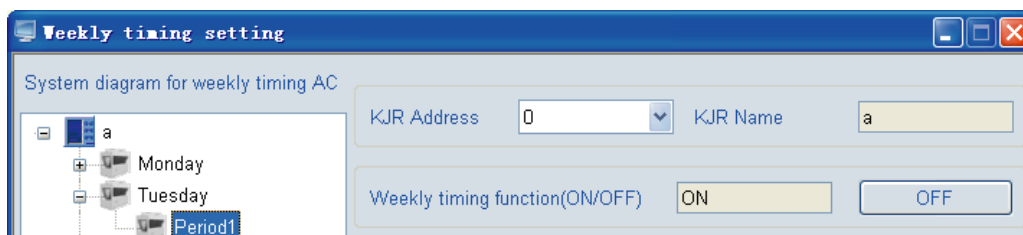
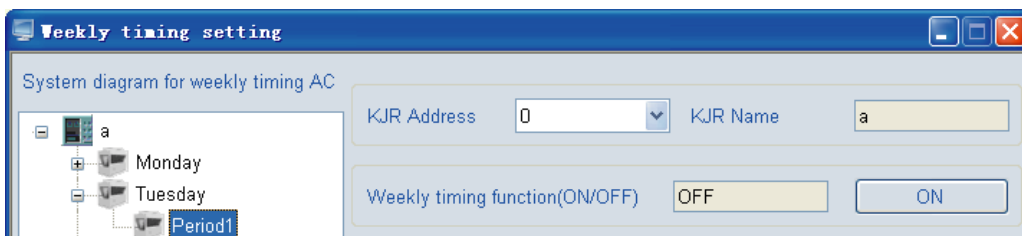
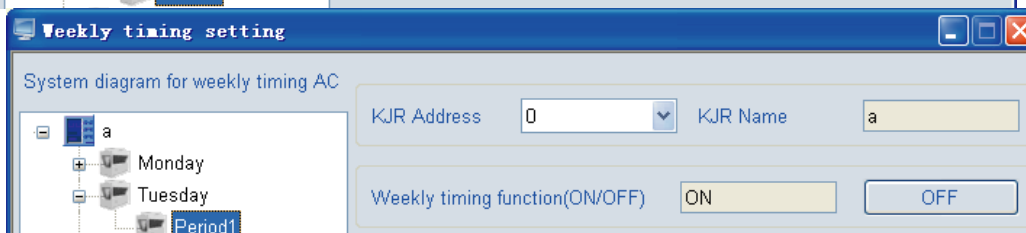

Fig.4-30
Fig.4-31
Fig.4-32
- d. Timing ON/OFF key for controlling the weekly timing wired controller (See the ① key in the figure ) —— when Weekly Timing Function is ON, the key shows OFF (see Fig. 4-30), once click the key, all weekly timing function would be turned off, and then the Weekly Timing Function displays OFF, while the key shows ON (see Fig. 4-31); when Weekly Timing Function is OFF, the key shows ON (see Fig. 4-38), once click the key, all weekly timing function would be turned on, and then the Weekly Timing Function displays ON, while the key shows OFF (see Fig. 4-32)